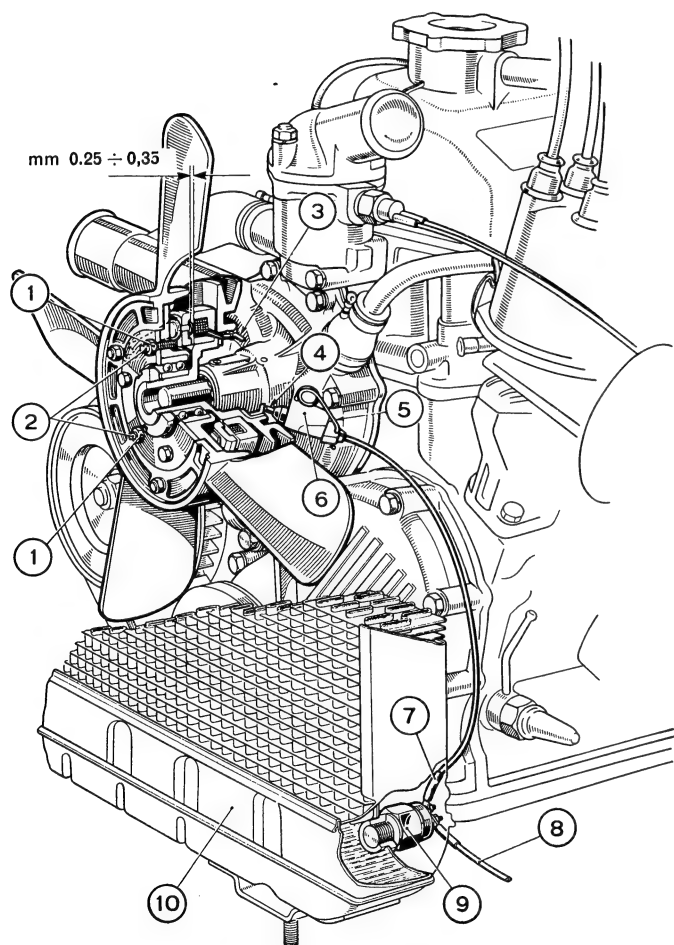

Fig. 85. - Automatic in-and-out fan (engine 115 C.005).
Current feed from main circuit to slip ring (6) is given by a sliding carbon brush (17); engagement and disengagement of fan are controlled by a thermal switch on down side of water radiator to contact of coolant (fig. 85).
- loosen the lock nuts (1, fig. 85) of adjusting screws (2);
- turn the screws (2) in or out, each time measuring the air gap by means of a feeler gauge at the affected screw;
- when air gap is correct, lock the screw nuts (1).
- thoroughly wipe the slip ring (3, fig. 85) with a dry cloth;
- unfasten the retaining spring (5, fig. 85), slide off the brush holder from its seat (6) and inspect the wear condition and contact ability of the brush (4) and brush pressure spring, making sure that the brush can slide freely in its seat; replace worn parts, if any;
- on reassembly, see that the spring (5) grasps the brush holder firmly.
If the temperature gauge on dashboard registers water temperature in excess of 185° F (85° C) and the radiator fan fails to throw in, the thermal switch may be at fault. If so, **temporarily** tie wires 7 and 8 (fig. 85) on the same terminal so that the fan will be operating all the time. Replace the thermal switch, as soon as possible.
If the fan fails to throw in even though the wires (7-8, fig. 85) have been tied together, which must be traced to an open solenoid winding (5, fig. 84), it will be also possible to have the fan operate all the same, **as a temporary measure**, by the **extended drag** method, as follows:
- loosen the three nuts (1, fig. 85) which secure the air gap adjusting screws (2);
- turn the three adjusting screws (2, fig. 85) **part way in**, so that the armature adheres to the solenoid housing;
- lock the screws with the three nuts (1, fig. 85); in this way the fan will be put into uninterrupted operation. As a definite remedy of trouble, arrange to replace the pulley-solenoid-slip ring assembly.
If the fan fails to throw in even though the wires (7-8, fig. 85) have been tied together, this may be due to the commutator-to-solenoid wire (7, fig. 84) being open; if so, to have the fan operate, proceed as outlined at 2), **for temporary correction**.